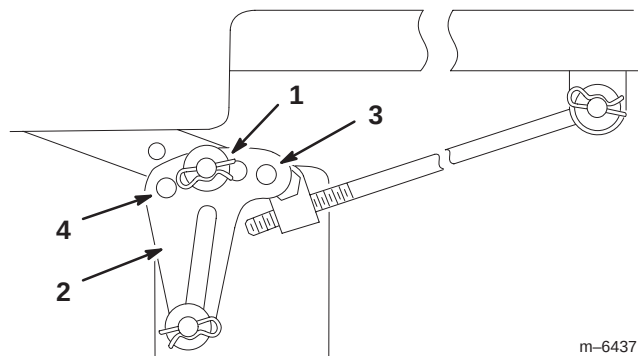

Figure 40
6. Remove the hairpin cotter and washer from the leveling bracket (Fig. 40).
7. To level the blade(s), reposition the leveling bracket(s) in a different hole and install the washer and hairpin cotter. (Fig. 40 and 41). A front hole lowers the blade height and a rear hole raises its height. Adjust both sides as required.